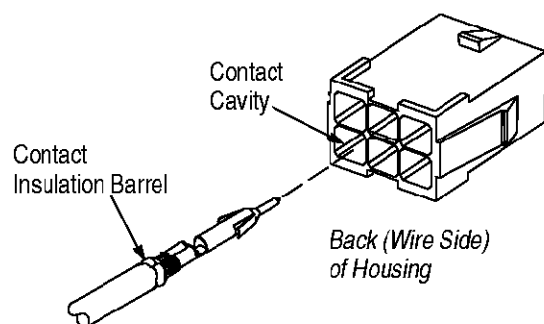

Figure 3
2. Grasp the wire—directly behind the contact insulation barrel—and push the contact straight into the cavity until it bottoms (there should be an audible click). Pull back lightly on the wire to be sure the contact is locked in place. See Figure 3.